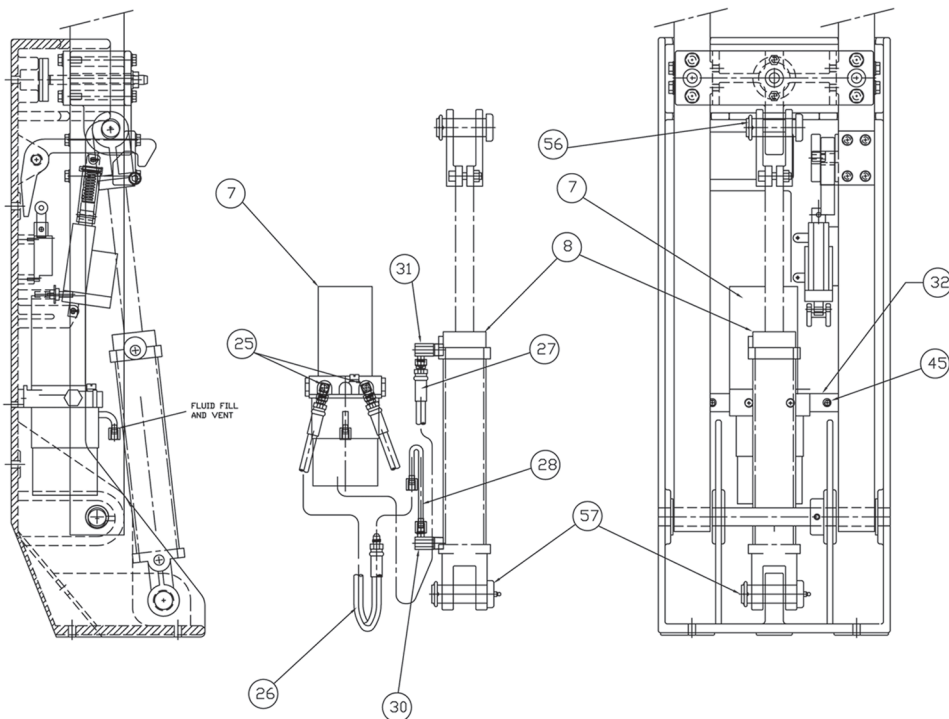

FIGURE 19
WARNING: *The Hydraulic system is a closed loop system. Hydraulic fluid in this system may be under pressure. Always wear safety glasses and protective clothing (Personal Protective Equipment (PPE)). No one, other than a qualified hydraulic pump technician, should attempt to remove any fittings or hoses from the system. The system contains one orifice which is restricted to .025" (30) Figure 19. Removal of this fitting or not properly disconnecting the hydraulic lines could cause bodily injury.*
3. Slowly disconnect the hydraulic line (27) to relieve pressure from the hydraulic cylinder (8) fitting (31). See Figure 19.